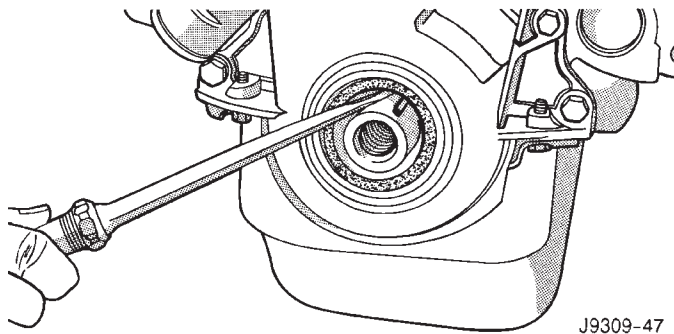

Fig. 27 Removal of Front Crankshaft Oil Seal
(1) Disconnect the negative cable from the battery.
(2) Drain cooling system (refer to Group 7, Cooling System).
(3) Remove the serpentine belt (refer to Group 7, Cooling System).
(4) Remove water pump (refer to Group 7, Cooling System).
(5) Remove power steering pump (refer to Group 19, Steering).
(6) Remove vibration damper.
(7) Remove fuel lines (refer to Group 14, Fuel System).
(8) Loosen oil pan bolts and remove the front bolt at each side.
(9) Remove the cover bolts.
(10) Remove chain case cover and gasket using extreme caution to avoid damaging oil pan gasket.
(11) Place a suitable tool behind the lips of the oil seal to pry the oil seal outward. Be careful not to damage the crankshaft seal surface of cover (Fig. 27).